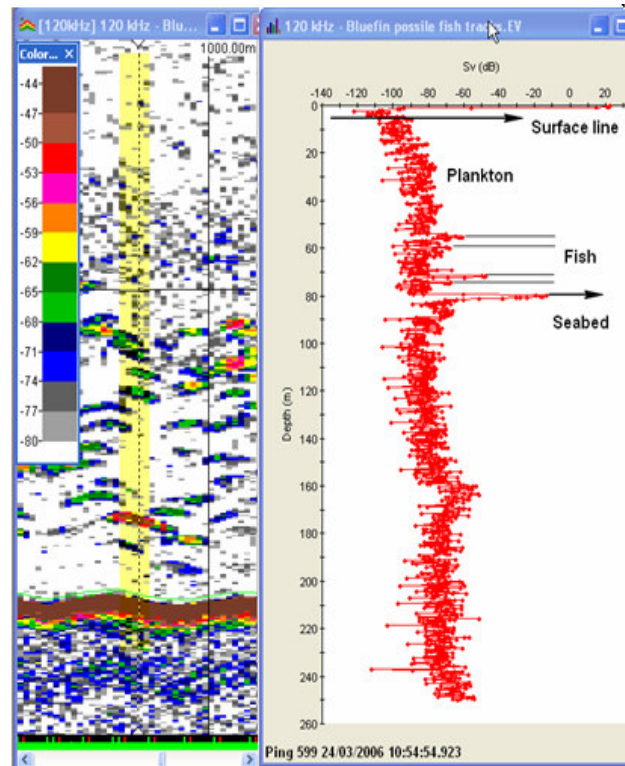

Figure 17. Graph of ping 599 in the Noise and reverberation analysis.EV file.
5. Zoom in so that you can see ping 599 and the fish highlighted in Figure 17.
7. Observe the features of the ping graph, as labeled in Figure 17.